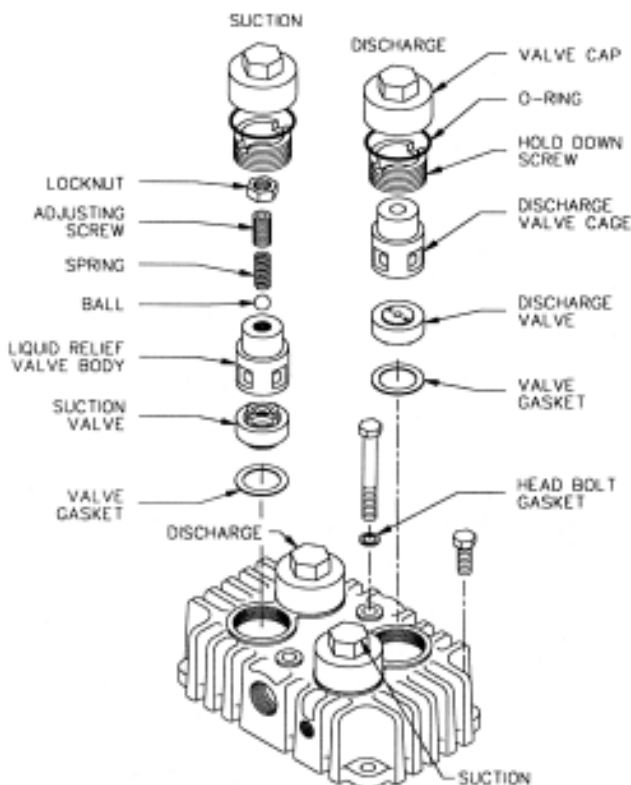

Figure 10 - LB 161 or LB 162 Valves
**MODELS LB 161 B or LB 162 B** - see Figure 10.